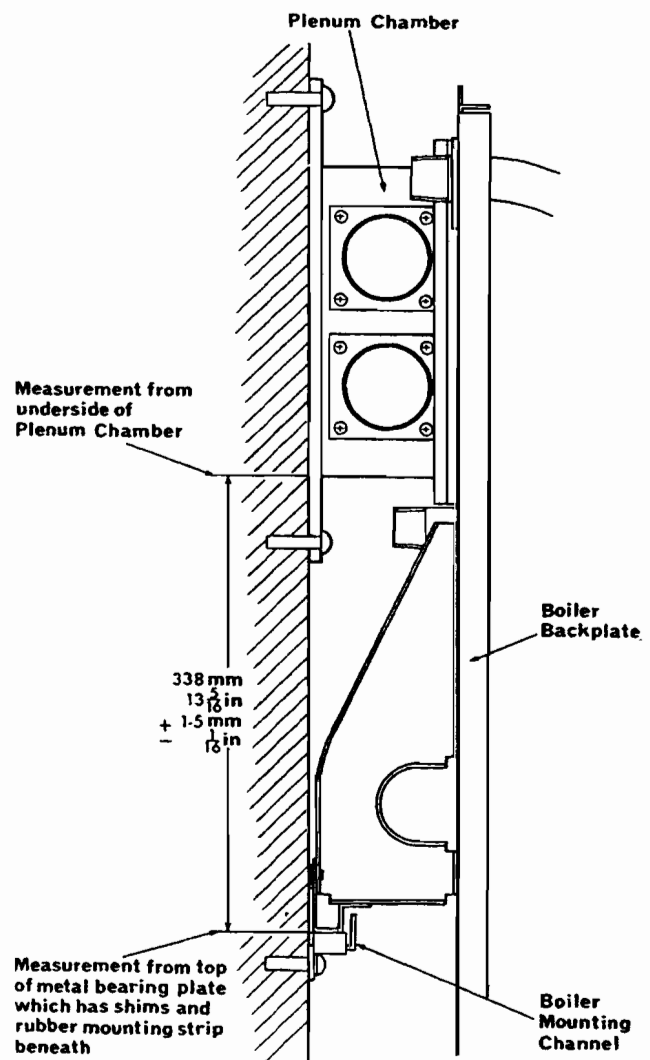

Fig. 6 RELATIVE POSITION OF PLENUM CHAMBER AND MOUNTING CHANNEL
(10) Measure the distance from the bottom of the box section of the plenum chamber to the top of the metal bearing plate in the boiler mounting channel, see Fig. 6. Compare this dimension with the nominal dimension of 338mm. (13.5/16 in.) and by adding additional shims or removing those already in position, adjust the measured distance to equal the nominal measurement, $\pm 1.5\text{mm}$ (1/16 in.) If a more coarse adjustment is necessary, the plenum chamber and mounting channel can be moved slightly up or down on the wall using the elongated holes in their mounting flanges. It is essential that this dimension is accurately obtained, otherwise once the boiler is lifted onto its mounting channel, the screw holes in the boiler back plate will not align with those in the plenum chamber.
(11) Make good the inside and outside wall surfaces around the liner as necessary.
- (12) Fit the balanced flue terminal over the end of the flue duct, ensuring that the duct is located inside the outlet aperture on the terminal. Secure the terminal to the wall with the two size 8, 1 in. long screws supplied (Accessories Card Item E). Note: When fitting the terminal, observe the "Top" mark on the terminal.
- (13) Remove the flue outlet grille from the terminal, then seal the gap between the outlet duct and the terminal with the sealing strip supplied.
- (14) Refit the outlet grille to the terminal so that it will direct the flue gasses sideways or downwards away from any obstruction, window, doorway, footpath or plastic pipe.
- (10) Secure the duct sealing flange and sealing rings, if applicable, to the telescopic trunking using the four screws (Accessories Card Item D).
- (11) Measure the distance from the bottom of the box section of the plenum chamber to the top of the metal bearing plate in the boiler mounting channel, see Fig. 6. Compare this dimension with the nominal dimension of 338mm (13.5/16-in.) and by adding additional shims or removing those already in position, adjust the measured distance to equal the nominal measurement, $\pm 1.5\text{mm}$ (1/16 in.) If a more coarse adjustment is necessary, the plenum chamber and mounting channel can be moved slightly up or down on the wall using the